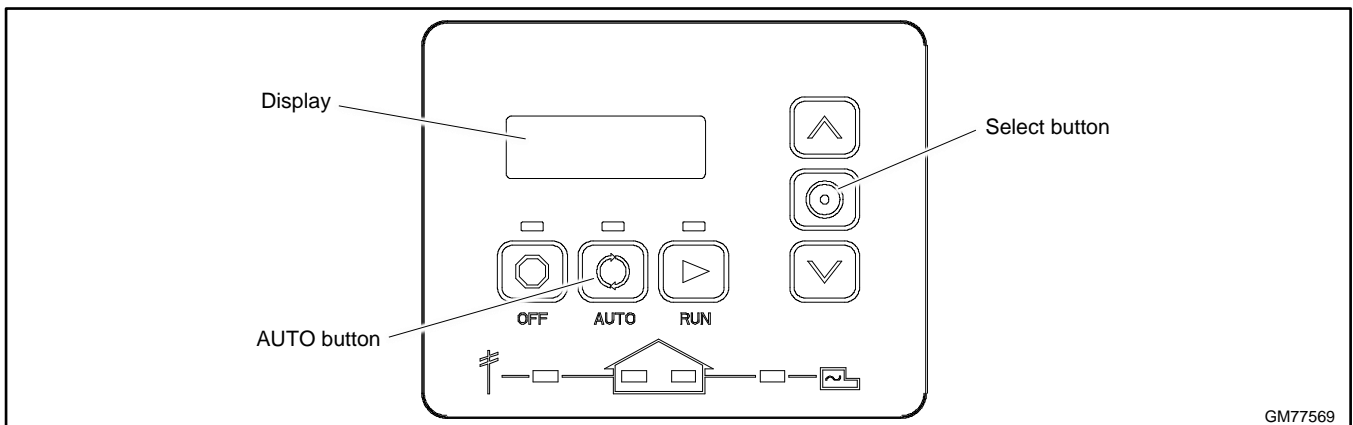
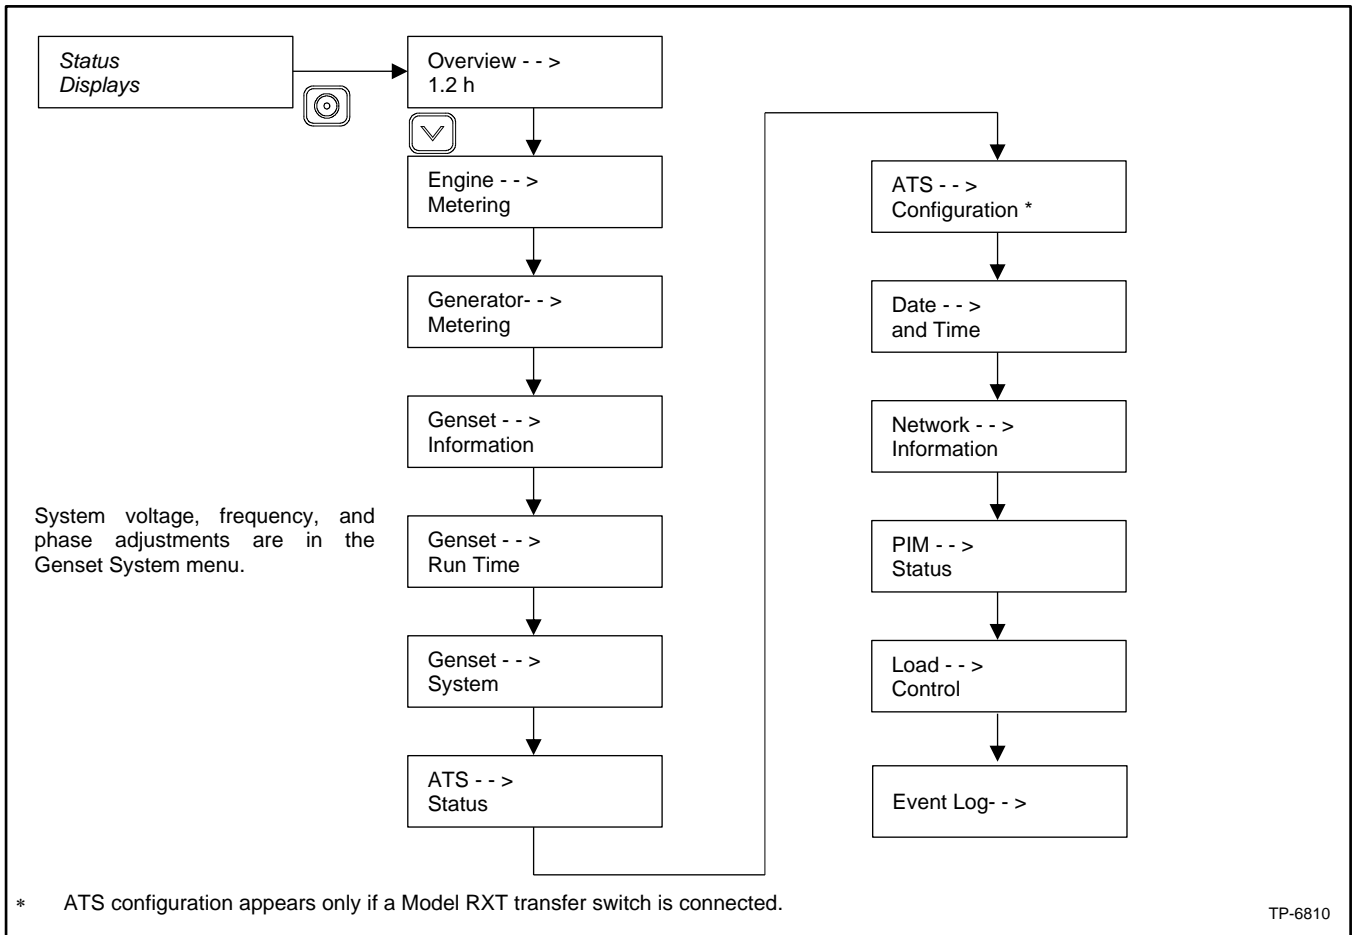

Figure 39 RDC2 Controller User Interface
Figure 40 RDC2 Main Menu
The following procedure explains how to change the system settings. The procedure is also illustrated in Figure 39.
1. Press the Select button to enter the main menu. See Figure 39 and Figure 40. The Overview screen will be displayed.
2. Press the down arrow button to navigate to the Genset System menu. See Figure 40.